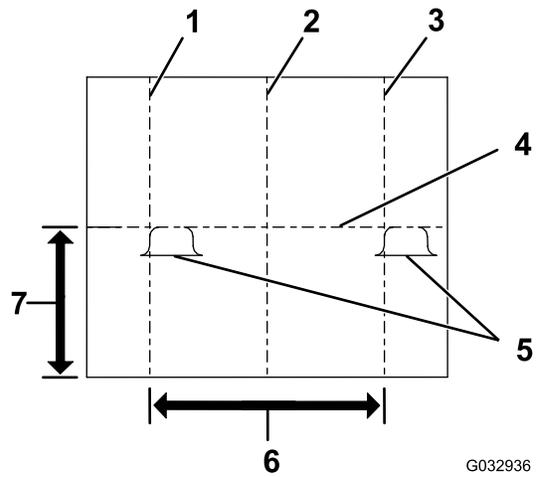

Figure 29
- Mark the vertical vehicle centerline on the screen (Figure 29).
- Mark the vertical headlight centerline on the screen (Figure 29).
- Mark the horizontal headlight centerline on the screen (Figure 29).
- Adjust the plow headlights until the brightest part of the plow low-beam lights are aligned as shown in Figure 29.